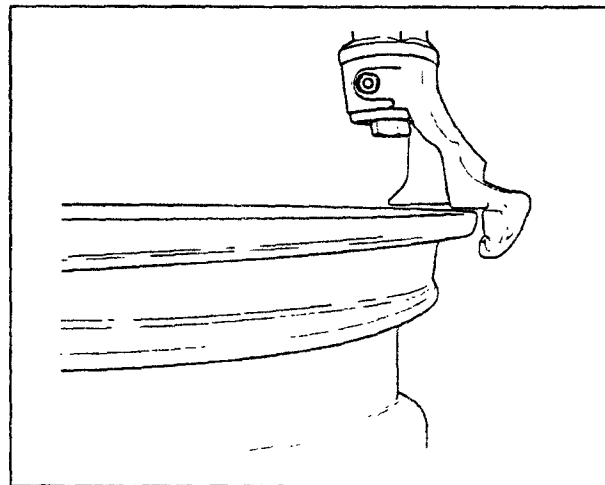

Fig.11
E. Position the mount/demount head in contact with rim edge and lock it into place. The tool automatically moves away from the rim edge vertically. Turn the adjustment knob until the mount/demount head clears the rim flange about 1/16" (2 mm): this is necessary to avoid any rim damage (Fig.11).